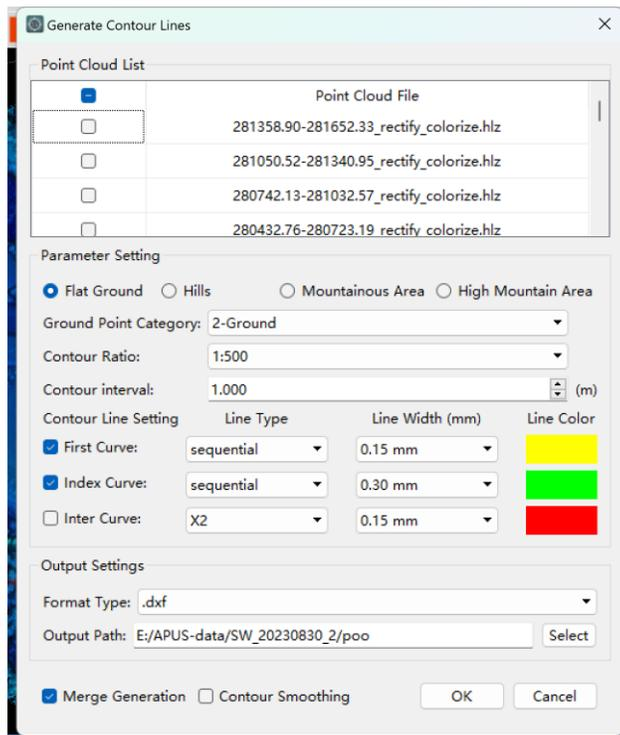

Figure 3-140 Generate contour lines
1. Click <Terrain>→<Generate contour lines>, the dialog box will pop up (Figure 3-140).